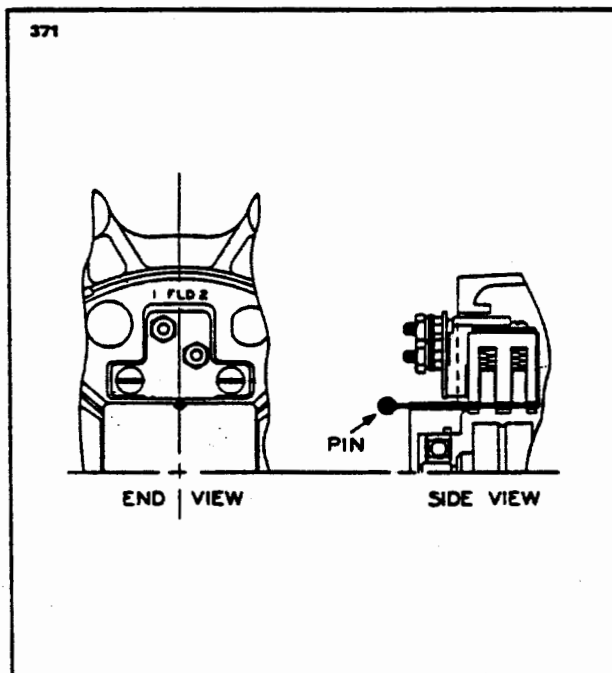

Figure 11-16. Brush Installation
- c. Brushes: These units have a separate brush holder assembly that is installed after the alternator has been assembled. The brush holder has a small hole that intersects the brush cavities. Use a pin or a piece of wire, as shown in Figure 11-16 to hold the brushes in the holder during assembly. Remove the pin after the brush holder retaining screws have been tightened. Make a continuity check to be sure the brushes are seated against the slip rings.